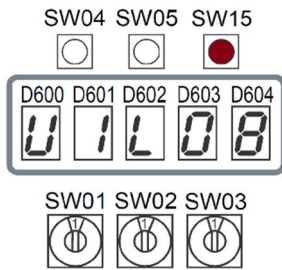

Fig 3
- 3) Set the rotary switches SW01,02 & 03 to "1 - 1 - 1" (fig 3).
Press and hold SW05. (fig 3).